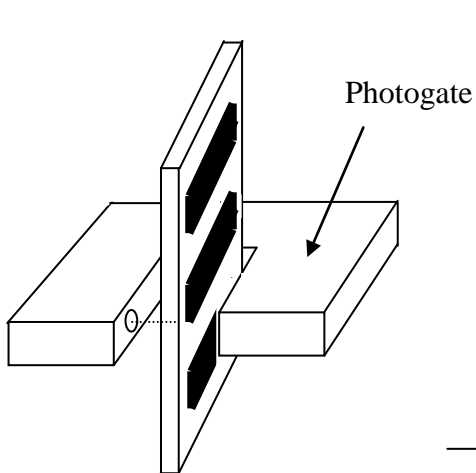

Figure 5.1: Picket Fence
- b. For accurate results drop the “Picket Fence” through the Smart Pulley Photo gate vertically as shown in Fig. 5.1.